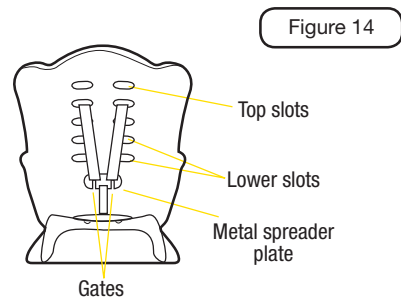

Figure 14
- Step 2: Remove each shoulder harness through the gates in the spreader plate (see figure 14).
- Step 5: The shoulder harness straps go directly from the shoulder slot holes to the spreader plate. Thread each shoulder harness strap back onto the metal spreader plate through the gate (see Figure 14).